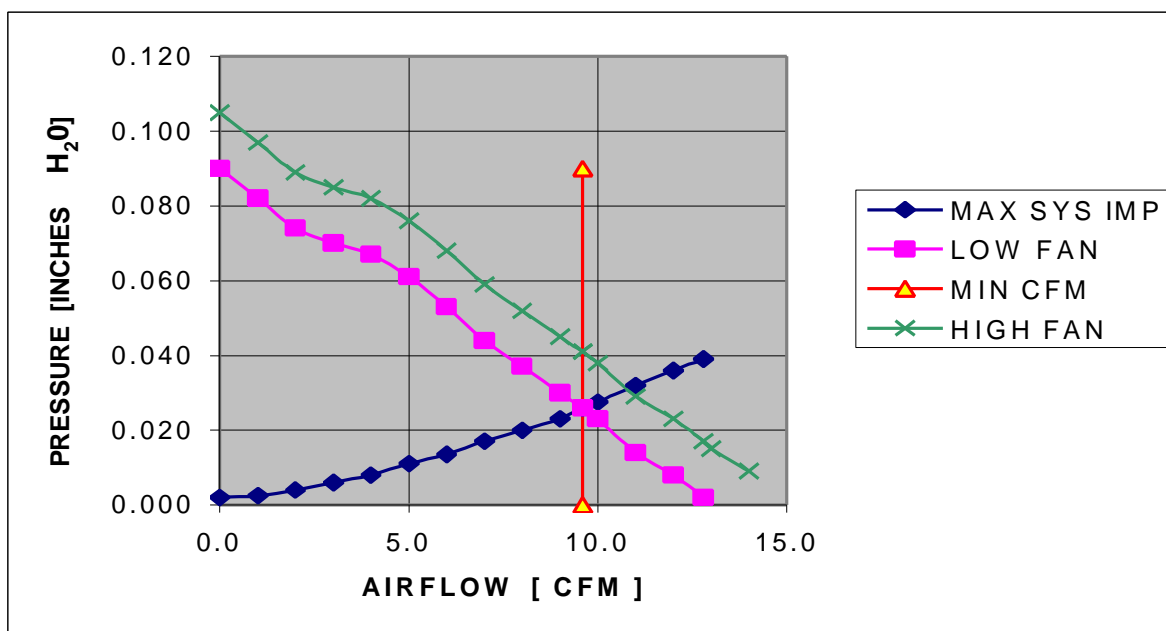
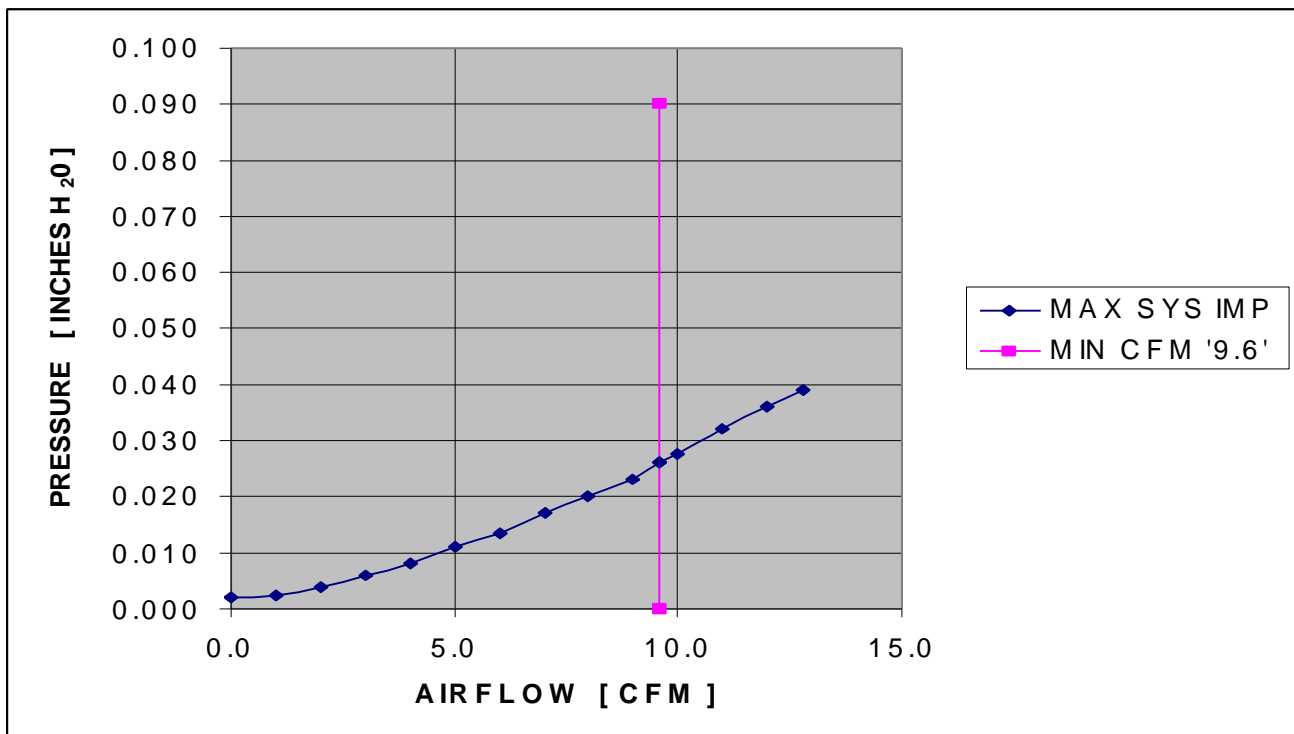

Figure 5-2: The Power Supply Airflow P-Q Curve
Figure 5-3: Maximum System Airflow Impedance P-Q Curve
The power supply must provide cooling to both the supply and the system. To meet minimum system requirements the power supply must reach a noise level of 38 dBA measured at one meter on all faces, for low speed fan operation. (Refer to the power supply's airflow chart shown in Figure 5-2.) A two-speed fan is a requirement for this specification. There are two- (2) fan performance P-Q curves shown, low speed and high speed, which may be selected by the system (FANC) to provide the required airflow over the system temperature requirements. Refer to Section 6.5 for details of FanC operation. Also shown is a curve for the maximum system air resistance that will allow cooling of the power supply. The minimum airflow required is 9.6CFM, which is marked with a vertical line at the intersection of the lower P-Q curve and the system resistance. This maximum system resistance is also shown separately in Figure 5.3. The minimum airflow requirement of 9.6CFM is marked with a vertical line.
The noise level of 38 dBA, is the maximum level set for low fan speed operations. The performance characteristics for low fan speed are specified in the lower P-Q (pressure vs. airflow) curve, and defined in Figure 5-2 as well. This curve is configured for the power-supply (not the fan), with the power supply having the ability to override the FANC operation when it senses over temperature conditions.